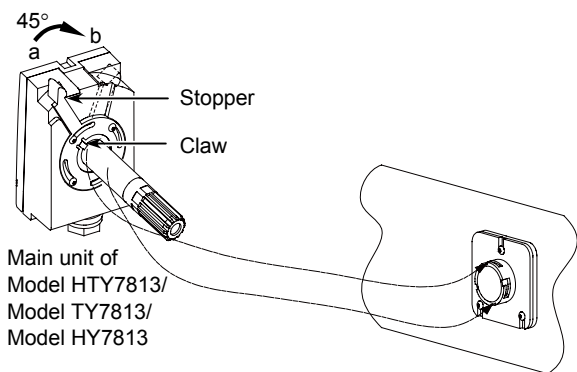

Figure 9. Mounting the main unit on the panel (with the mounting bracket)
- 3) Turn the main unit stopper (lock) 45 degree (from 'a' to 'b' shown in Fig. 9), and insert the probe of the main unit into the bracket as the main unit claws and the bracket slits match.